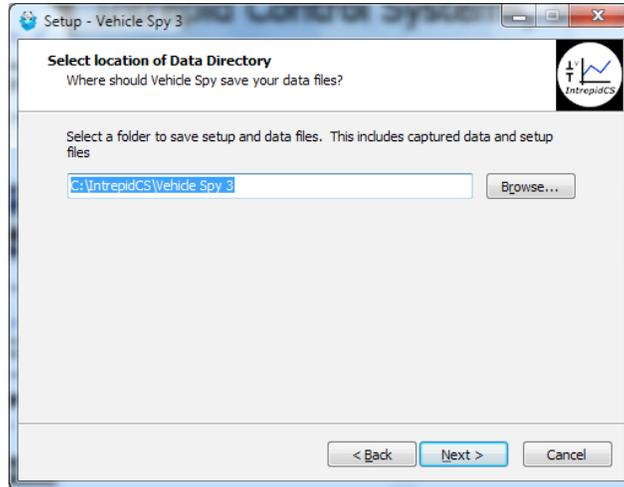

Figure 14: Selecting the Vehicle Spy 3 Data Directory Location.
8. **Select Data Directory Location:** Next, choose where you want Vehicle Spy 3 to store its data files. We recommend sticking with the provided default, *C:\IntrepidCS\Vehicle Spy 3* (Figure 14). Click to continue.